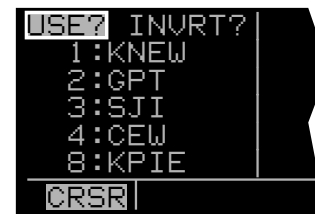

Figure 4-11
3. Press the left **CRSR** to enable the left cursor function. The cursor will appear over **USE?** (figure 4-11). If you haven't left the numbered flight plan page since creating this flight plan, rotate the left outer knob all the way counterclockwise to position the cursor over **USE?**